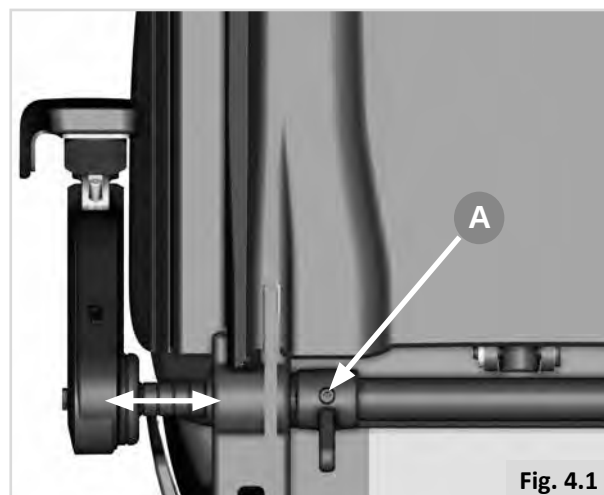

Fig. 4.1
- Loosen the two screws (5.0mm Allen key) on the traversing tube as shown in (Fig. 4.1 - A).